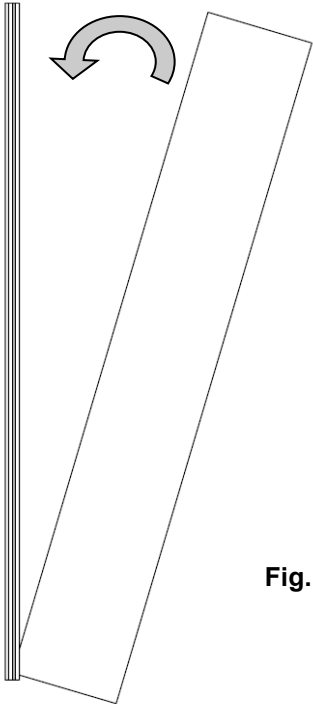

Fig. 22
23. Insert Polycarbonate sheet into the bulb seal (fig. 22).